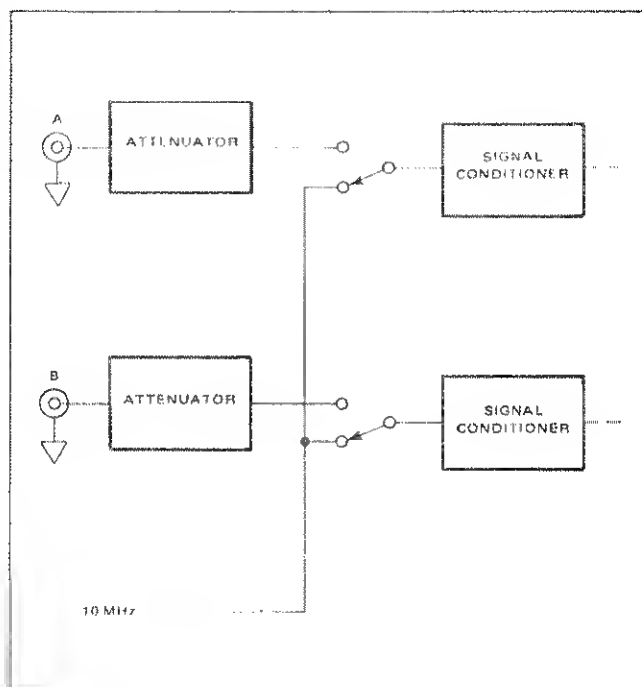

Figure 4.2 - Test
4.3.2.1 The TEST mode of operation (figure 4.2) enables the operator to check for proper operation of the counter in all operating modes.